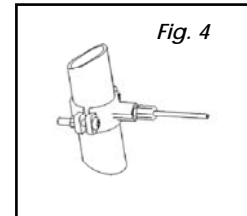

Fig. 4
3. Screw the connector nut onto the drain saddle threaded connector loosely (Fig. 4). Using the connector opening in the side of the drain saddle as a guide, drill a 3/8" hole through the wall of the drain pipe.
5. Tighten the saddle bolts evenly on both sides until the saddle grips the pipe snugly - do not overtighten. (Fig.4)